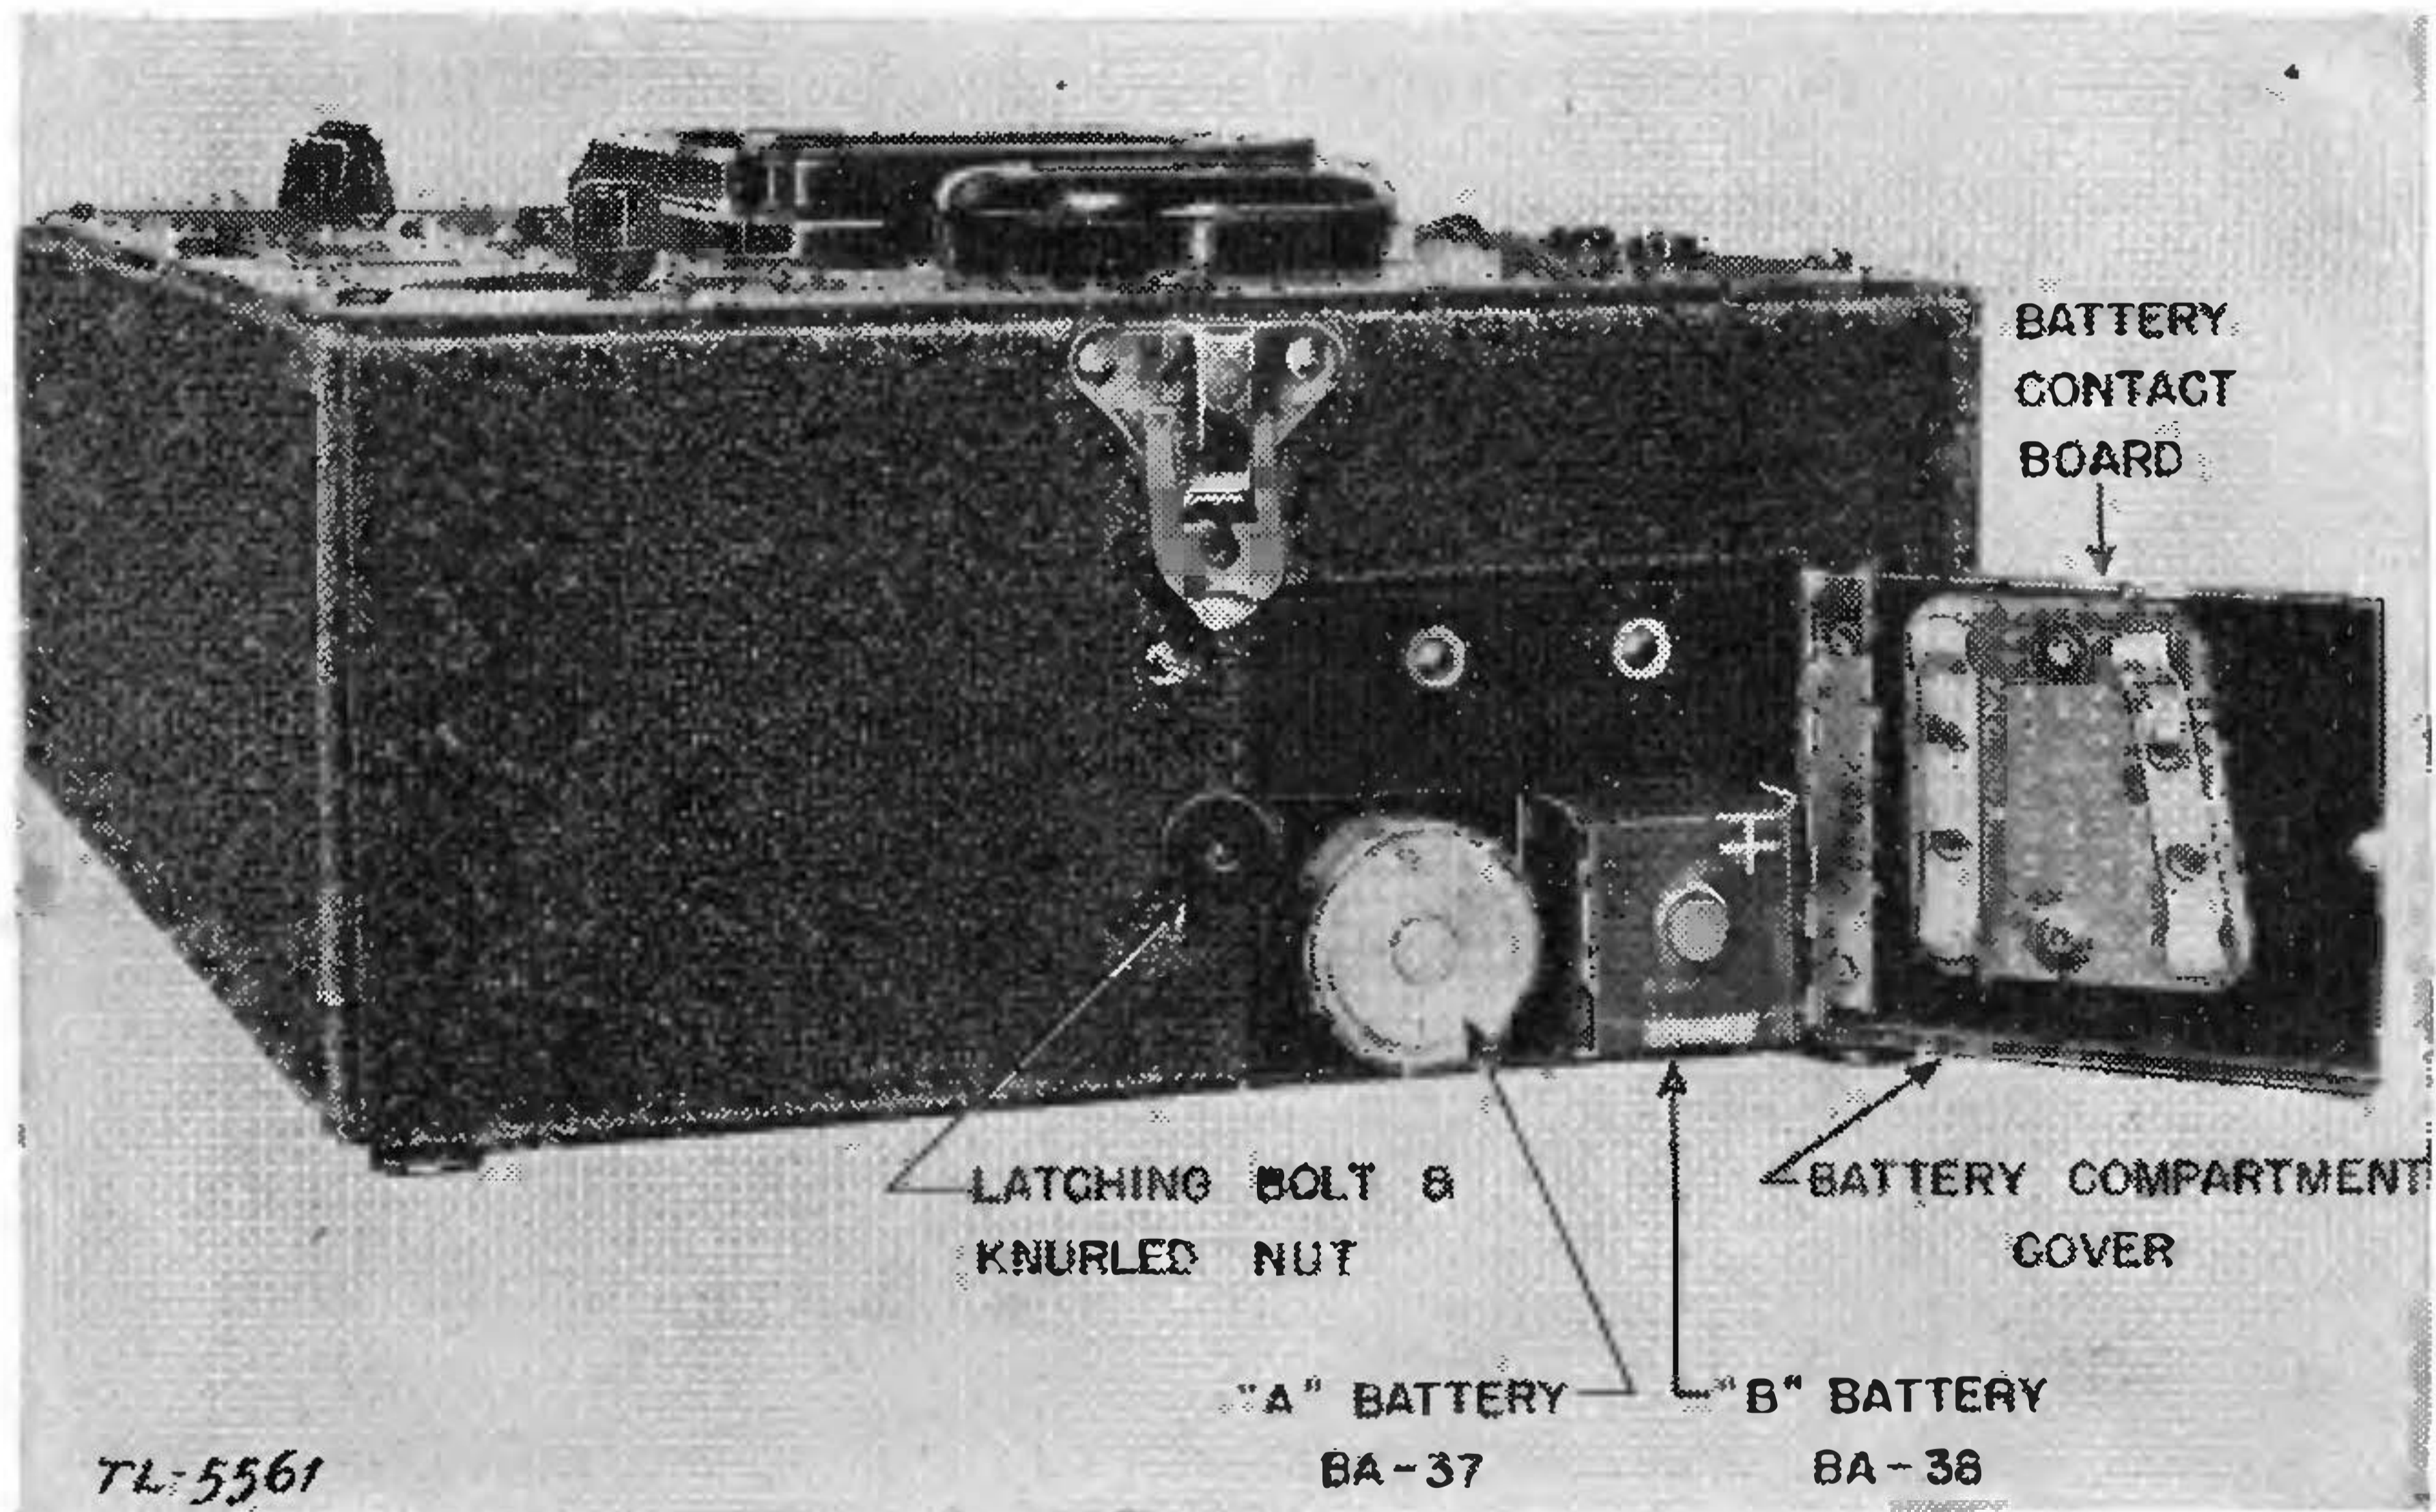

FIGURE 7.—Test unit I-135-(\*)—showing battery compartment.
*d.* Compartments are provided in the test unit for A battery BA-37 and B battery BA-38 to permit these batteries to be tested under load. (See fig. 7.) Also connections are provided for the use of external batteries. A heavy-duty 1.5-volt battery (battery BA-23 or battery BA-35) and a heavy-duty 90-volt battery (two batteries BA-26 or two batteries BA-36) will be satisfactory for all alinement and testing purposes. Battery BA-37 and battery BA-38, part of radio receiver and transmitter BC-611-(\*), also can be used for this purpose, but are not recommended because of their short life under these conditions.
(1) OFF, which disconnects external and internal batteries of test unit I-135-(\*) from both the test unit and the radio set chassis. The radio set and oscillator are ON in all other positions of the MASTER SWITCH.
(2) BA-37, O-3V. D.C., which indicates on the meter the voltage of external A battery or battery BA-37 when the radio set is in either the receiver or transmit position.
(3) BA-37, O-600 MA. D.C., which indicates on the meter the current drain of external A battery or battery BA-37 when the radio set is in either the receive or transmit position.
(4) BA-38, O-150 V. D.C., which indicates on the meter the voltage of external B battery or battery BA-38 when the radio set is in either the receive or transmit position.
(5) BA-38, O-60 MA. D.C., which indicates on the meter the current drain of external B battery or battery BA-38 when the radio set is in either the receive or transmit position.
(6) PWR. AMP., O-15 MA. D.C., which indicates on the meter the r-f power amplifier plate current when the radio set is in transmit position.
(7) OUTPUT O-60 V. A.C., which indicates on the meter the audio output voltage of the radio receiver; the meter is connected across the earphone in the test unit.
(8) CRYSTAL ACTIVITY, O-1.5 MA. D.C., which indicates on the meter the grid current of the crystal oscillator to show condition of crystal. The MODULATE TESTER switch must be OFF when crystal activity is being checked.
(9) The switch marked MODULATE TESTER is used to modulate the r-f oscillator with a 1,000-cycles-per-second tone when the test unit is to be used for receiver alinement purposes.
63. Testing batteries BA-37 and BA-38.—*a.* Use test equipment IE-17-(\*) for this test, but be sure that the external heavy-duty batteries are *disconnected*. The radio set chassis *with both crystals in place* is mounted in the test case, connected to the test unit, and then placed in the test stand with antenna rod extended. The press-to-talk switch must be *in transmit position*. The MASTER SWITCH of the test unit should be OFF. Place radio set batteries BA-37 and BA-38 in the compartment of the test unit. Close and secure the compartment cover. (See fig. 7.) MODULATE TESTER switch must be OFF.